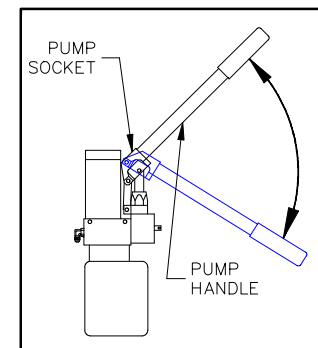
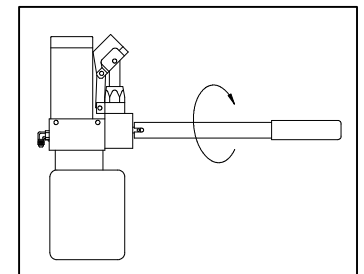

FIGURE 3-10: RAISE STEP-LIFT ABOUT 4"
FIGURE 3-11: CLOSE RELEASE VALVE
- 1) Refer to **Figure 3-10**. Locate manual back-up pump on right side of right column. Insert pump handle into socket on manual pump and pump until step-lift is about four inches above stow level. If step-lift does not rise refer to **Figure 3-11** and check that release valve is **closed**.